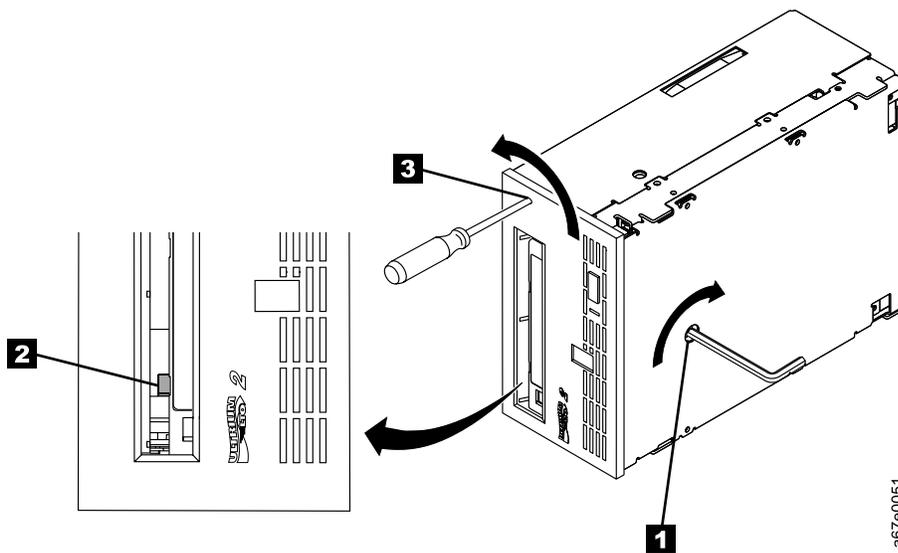

Figure B-3. Determining whether the tape is broken. The view is from the front of the drive.
6. Place the drive sled so the front of the drive faces you, then tilt it on its left side (see Figure B-3).
7. Locate the access hole at the bottom of the unit **1** in Figure B-3.